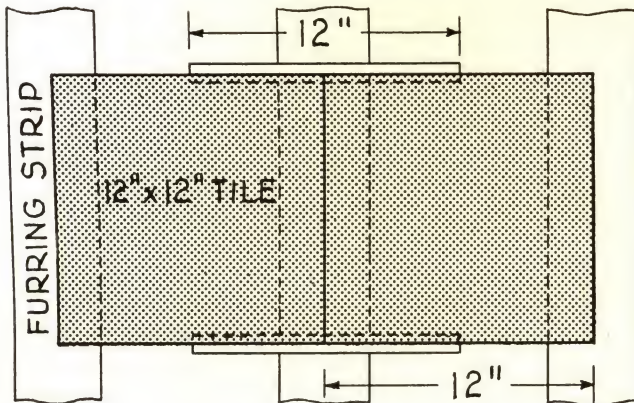

FIG. 1
6c (1). Spline-Lok System. The balance of the ceiling can be installed by the Spline-Lok System. Splines are packed at one of the sealed ends of each carton as marked. Although proper use of the Spline-Lok System of installation automatically levels the corners of the tile units and aids in holding straight lines, care is always necessary in placing the units to insure good alignment. The tile units should be butted together gently, not forced. Insert wood splines in the grooves on both sides of the tile already in place so that the splines extend from center to center of the tile units as shown in Fig. 1.